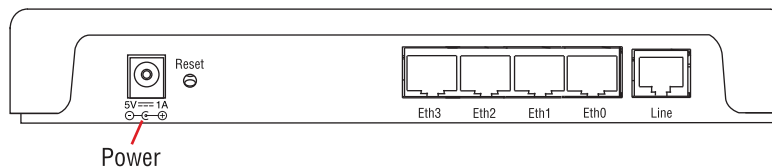

Figure 14. CL1300 Power port
1. Plug the AC switching power supply (see figure 13 on page 28) barrel jack into the CL1300 *Power* port (see figure 14 on page 28)
1. Plug the DC power converter (see figure 15) barrel jack into the CL1300 *Power* port (see figure 14 on page 28)